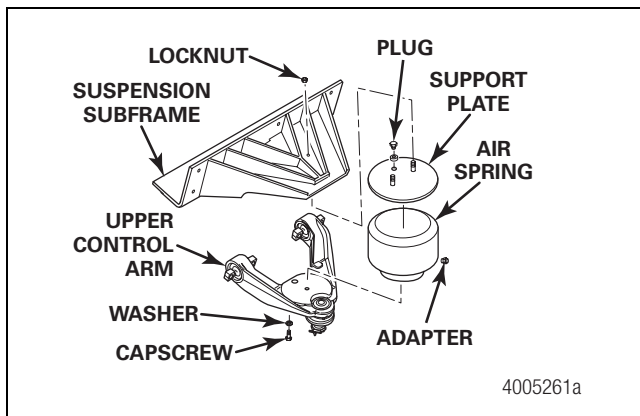

Figure 5.3
1. Disconnect the air line from the air spring. Remove the two locknuts and washers that secure the air spring to the suspension subframe. Discard the locknuts and washers. Figure 5.3.
4. Support the upper control arm. Figure 5.3.